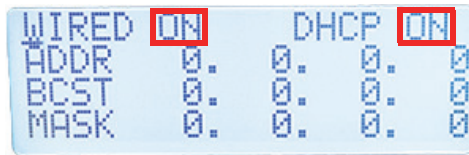

Figure 4-3 DHCP menu
3. To quickly set up the protocol, use the arrow buttons to set **DHCP** to **ON** (see Figure 4-3 on page 60). Otherwise, change the DHCP parameters using the arrow buttons.